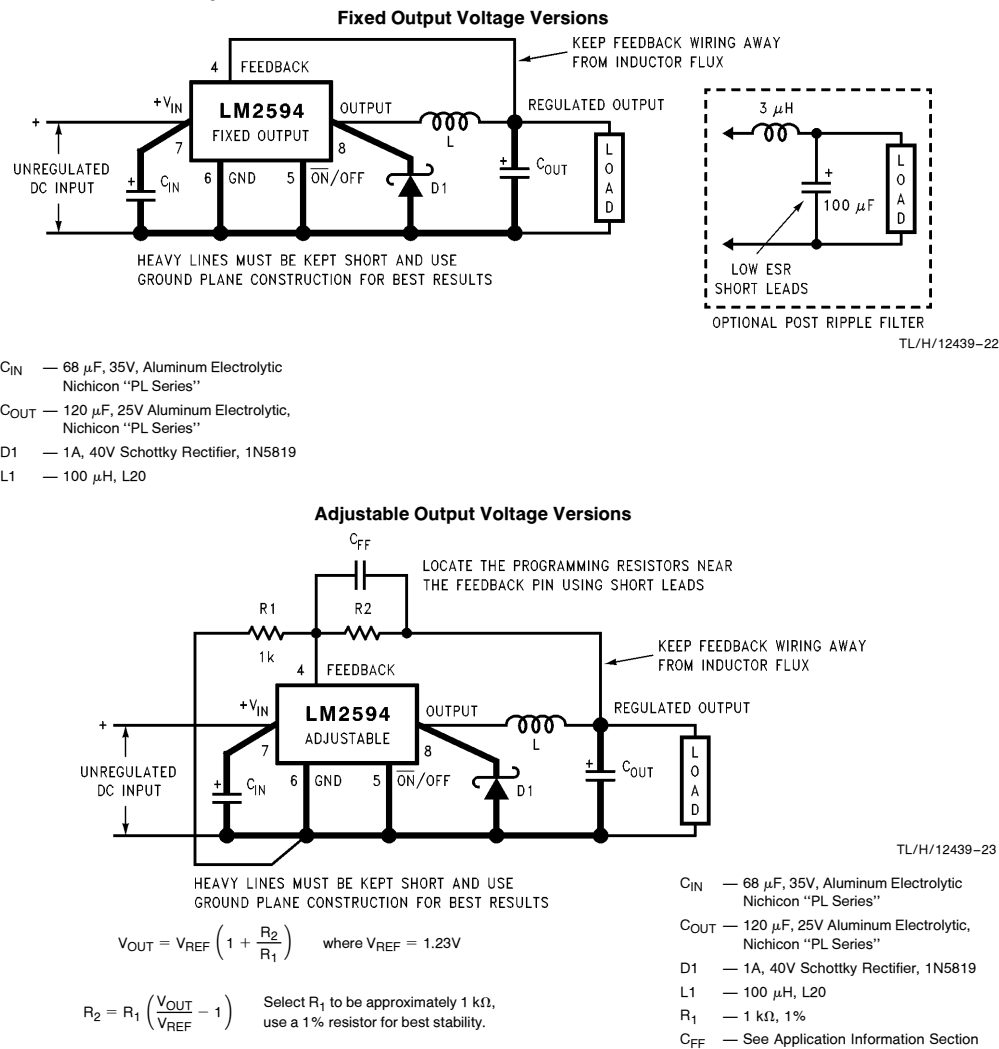

FIGURE 2. Standard Test Circuits and Layout Guides
SYSTEM PARAMETERS (Note 5) Test Circuit Figure 2
Note 5: External components such as the catch diode, inductor, input and output capacitors, and voltage programming resistors can affect switching regulator system performance. When the LM2594 is used as shown in the *Figure 2* test circuit, system performance will be as shown in system parameters section of Electrical Characteristics.
Typical Performance Characteristics (Circuit of Figure 2)
Typical Performance Characteristics (Circuit of Figure 2) (Continued)
(Circuit of *Figure 2*)
1. Programming Output Voltage (Selecting R_1 and R_2 , as shown in *Figure 2*)